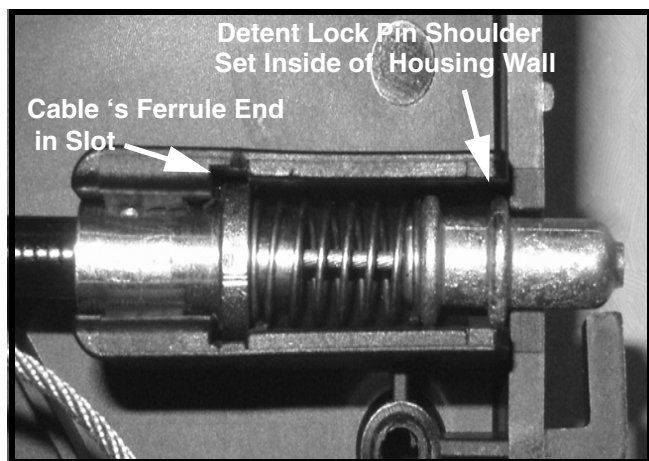

FIGURE 10
27. Ensure that the detent lock pin is set properly into the retaining slot as shown in Figure 10.